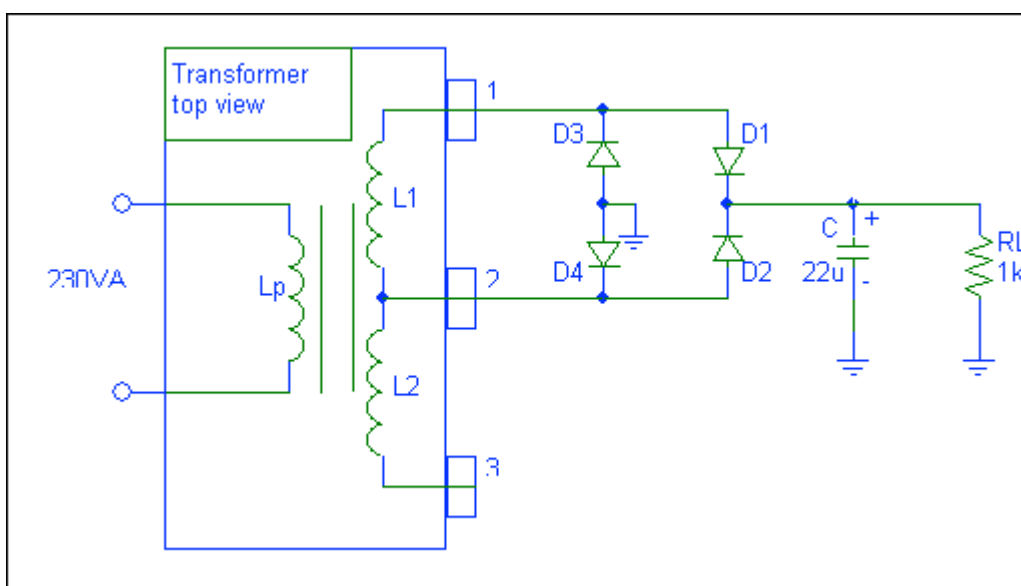

Fig. 4 Diode bridge full-wave rectifier with smoothing capacitor
1. Solder the circuit illustrated in fig. 4.